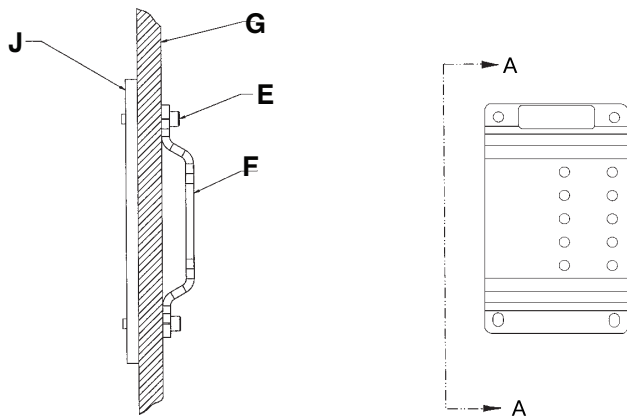
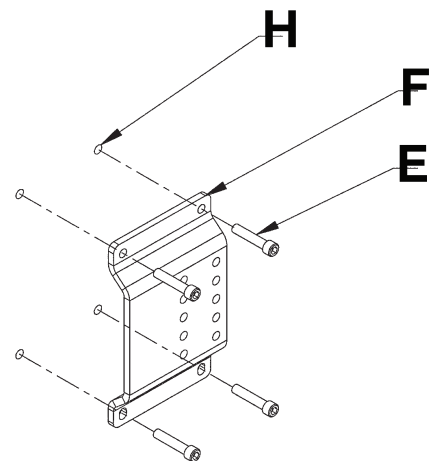

Figure 18 – Wall plate bracket and steel backing
Figure 19 – Wall plate bracket and locating points
6. Using four 5/16 in. diameter socket head cap screws (E) (not supplied), anchor the wall bracket (F) through the 11/32 in. diameter holes (G) to the wall (H) (Figure 18 and Figure 19).
Note - A steel backing plate (or equivalent) (J) (not supplied) is required for added support (Figure 18).